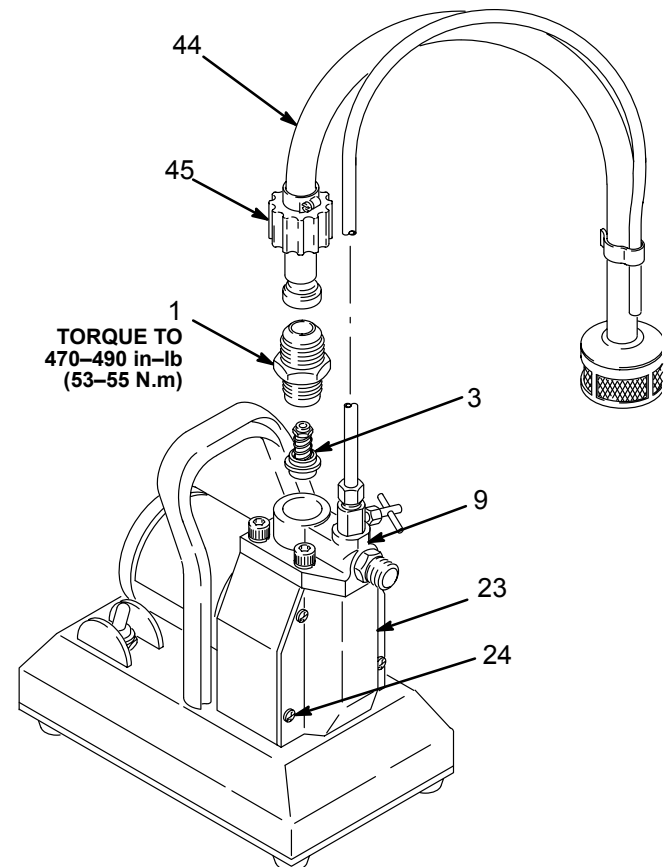

Fig 13
2. Remove the front cover (23). See Fig 13.
5. Slide the retainer (14) over the pressure switch and screw the retainer into the pump housing. Torque the retainer to 55–65 in-lb (6.2–7.4 N.m). See Fig 13.
### Inlet Valve (See Fig 13.)